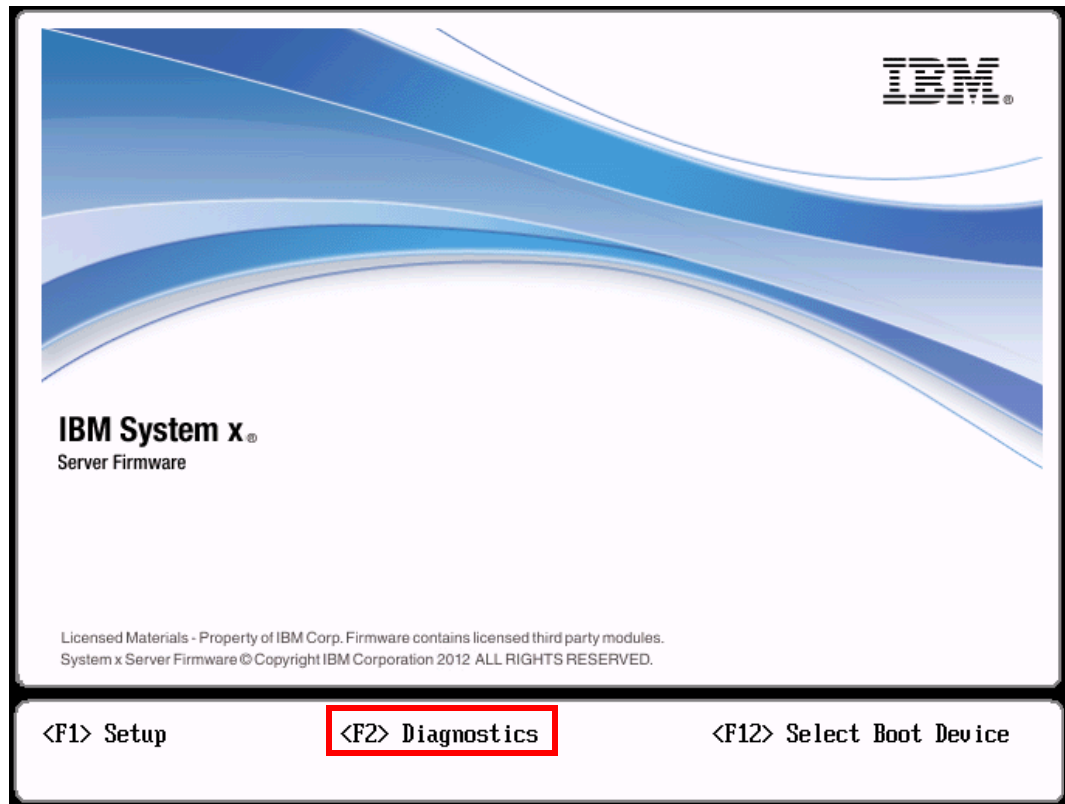

Figure 3-13 F2 option to enter Diagnostics option
1. Power on the system and press F2 when the UEFI window opens, as shown in Figure 3-13.